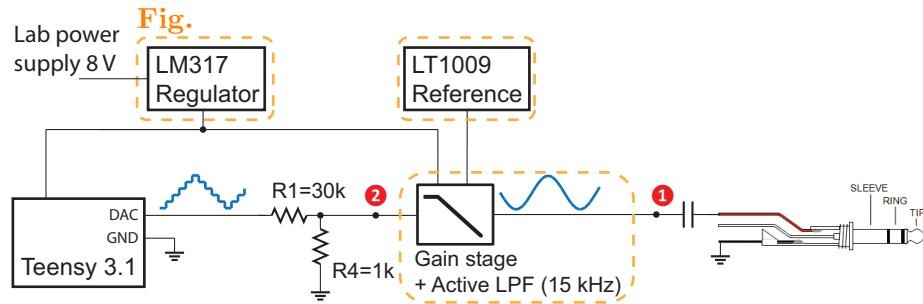

Figure 15: Acquiring signal through computer sound card.
1. Set up the system according to Fig. 15.
- 7. Now use the audio cable to acquire the signal after the gain stage (position 2 in Fig. 15). Record the data and compare it with that from the last step. Explain the difference, if there is any.